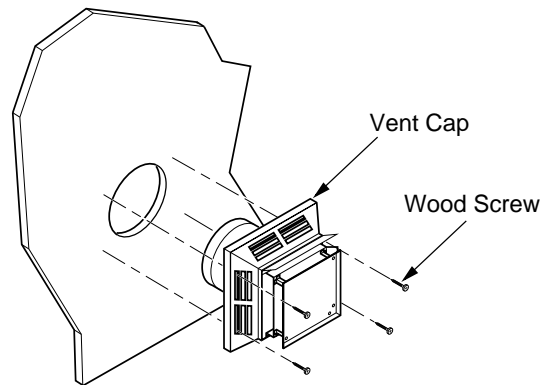

Figure 28 - Installing Horizontal Vent Cap (Noncombustible Exterior)
- Noncombustible Exterior Wall:** Apply a bead of non-hardening mastic around the outside edge of the vent cap. Position the vent cap in the center of the 7 1/2" (19.1 cm) hole on the exterior wall with the arrow on the vent cap pointing up. Attach the vent cap with four wood screws provided (see Figure 28). *Note:* Replace the wood screws with appropriate fasteners for stucco, brick, concrete, or other types of siding.